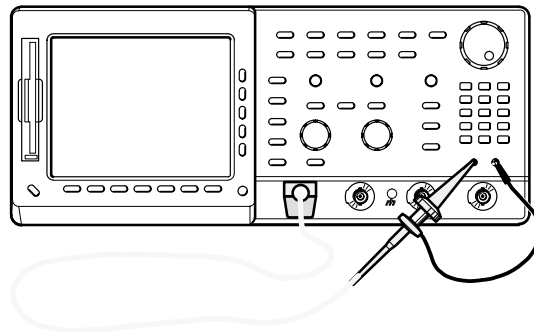

Figure 1-3: Universal Test Hookup for Functional Tests
- a. *Hook up the signal source:* Install the probe on **CH 1**. Connect the probe tip to **PROBE COMPENSATION SIGNAL** on the front panel; connect the probe ground to **PROBE COMPENSATION GND**. (See Figure 1-3 on page 1-6.)